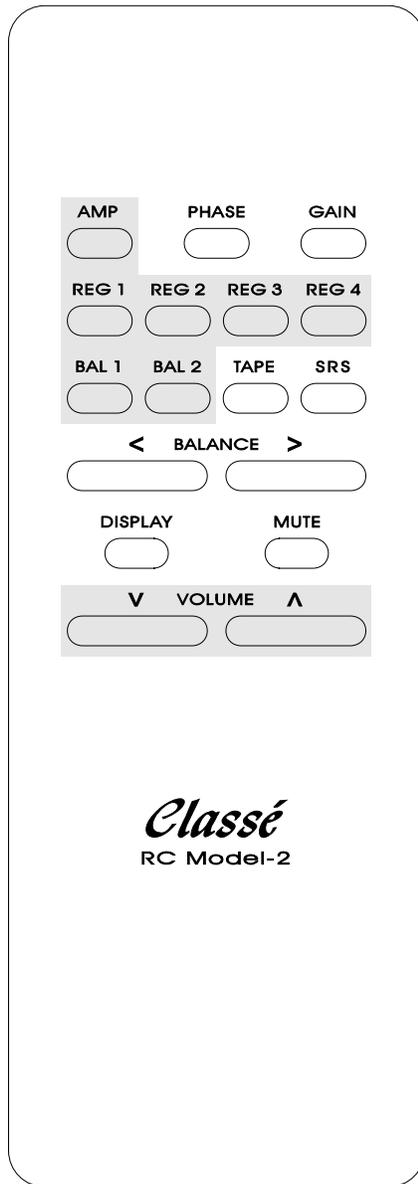

Fig.4: Remote control model -2 (CP-50/60)
1. The remote interface box can be operated using the currently available remote control for the CP-50/CP-60 preamplifiers (see fig. 4, page 5). The top left button of these preamplifier remotes is labeled amp. If you hold down this button while pointing it at the remote interface box, it will allow several of the other keys on the CP-50/60 remote to change to a new function. When the amplifier button is pushed down and held down, the REG1, REG2, REG3, REG4, BAL1, and BAL2 buttons become functional as the keys to turn on or off Amplifier 1 through 6 via the remote interface box. Also, with the Amp button held down, the vol up and vol down will turn on all of the six amps (vol up) or turn off all of the six amps (vol down) in a timed sequence (approx. 3/4 second between turn-on or turn-off signals) which avoids surge currents which could trip circuit breakers or fuses.